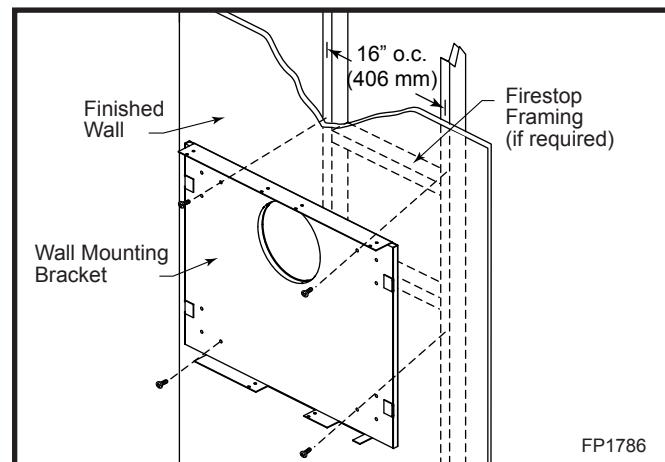

Fig. 5 Secure wall mounting bracket in desired location.
1. The DVR28 comes with a wall mount bracket to secure the fireplace to the wall. Standoffs on the back of the bracket allow for proper clearances to combustibles. (Fig. 5)